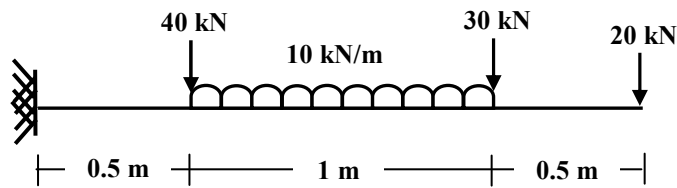

FIGURE-2 Q-3 (b)
- (b) Draw shear force and bending moment diagram for a beam as shown in figure-2. 7